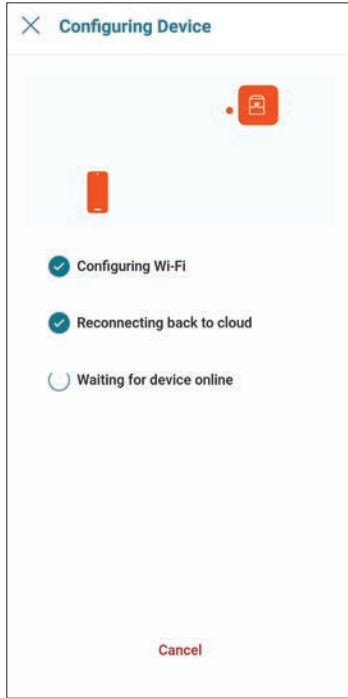

Figure 101. Configuring Device
- 9. Raymote app will provide the Wi-Fi credentials to your unit. This process may take a few seconds. See Figure 101.